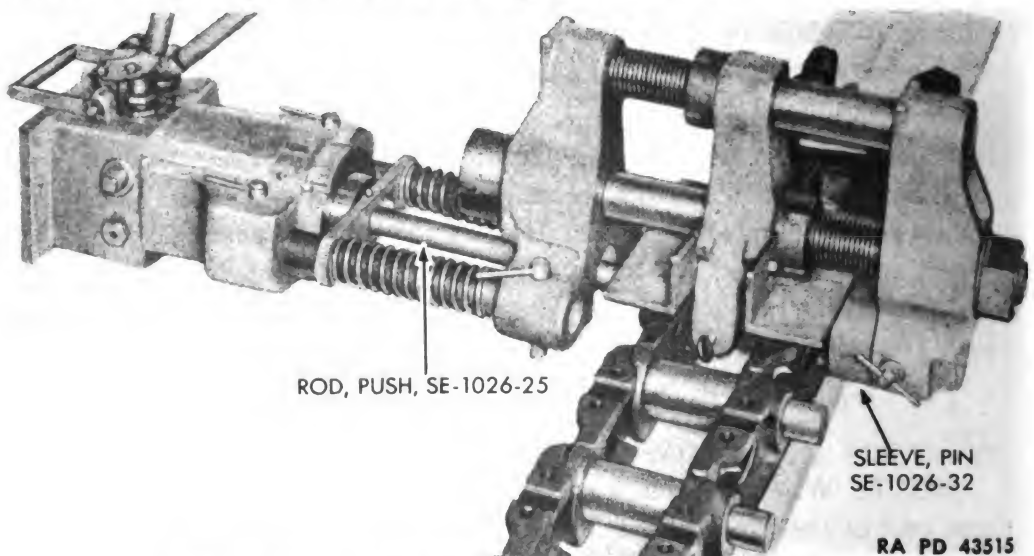

Figure 159 — Pushing Pin Just Out of First Link
- (3) PUSH PIN OUT OF FIRST LINK (WITH SHOES REMOVED) (fig. 159).